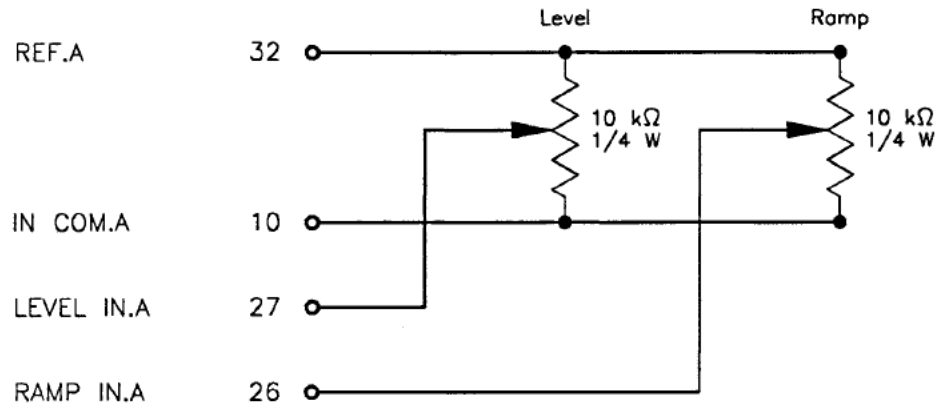

Figure 3-8. Wiring diagram for externally programming the ramp timer and the output setpoint.
*pin 26. *RAMP IN.A*.* This input signal is used to remotely program ramp time (see Fig. 3-8, page 3-25). A span of 0-5 V corresponds to ramp time: 5 V = maximum ramp time (10 min.  $\pm 1\%$ ) when **REMOTES RAMP** has been selected on the front panel. This signal should be referenced to *IN COM.A (pin 10)*.
*pin 27. *LEVEL IN.A*.* This input signal is used to remotely program the output level (see Fig. 3-8, page 3-25). A span of 0-5 V corresponds to output: When **REMOTES LEVEL** has been selected on the control panel, 5 V = actual maximum output level (10 A, 1000 V, 5 kW for a standard MDX 5K; 20 A, 1000 V, 10 kW for a standard MDX 10K, etc.)  $\pm 2\%$ , or  $\pm 0.2\%$  of the maximum output level, whichever is greater. This signal should be referenced to *IN COM.A (pin 10)*.